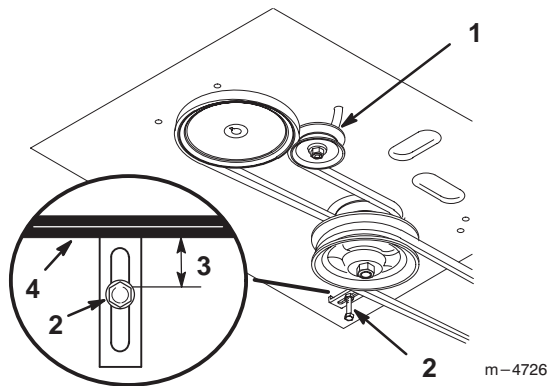

Figure 47
5. Install new belt around engine and drive pulleys (Fig. 47).
6. Slide idler pulley in engine frame to tension traction belt (Fig. 47).
8. Check the belt guide under the engine frame for proper adjustment (Fig. 47). The distance between the belt guide and mower belt should be 1-1/4" (32mm) when mower belt is engaged. Adjust as necessary. The disengaged belt should not drag or fall off pulley when guides are properly adjusted.
10. Check the belt guide under the engine frame for proper adjustment (Fig. 47). The distance between the belt guide and mower belt should be 1-1/4" (32mm) when mower belt is engaged. Adjust as necessary. The disengaged belt should not drag or fall off pulley when guides are properly adjusted.